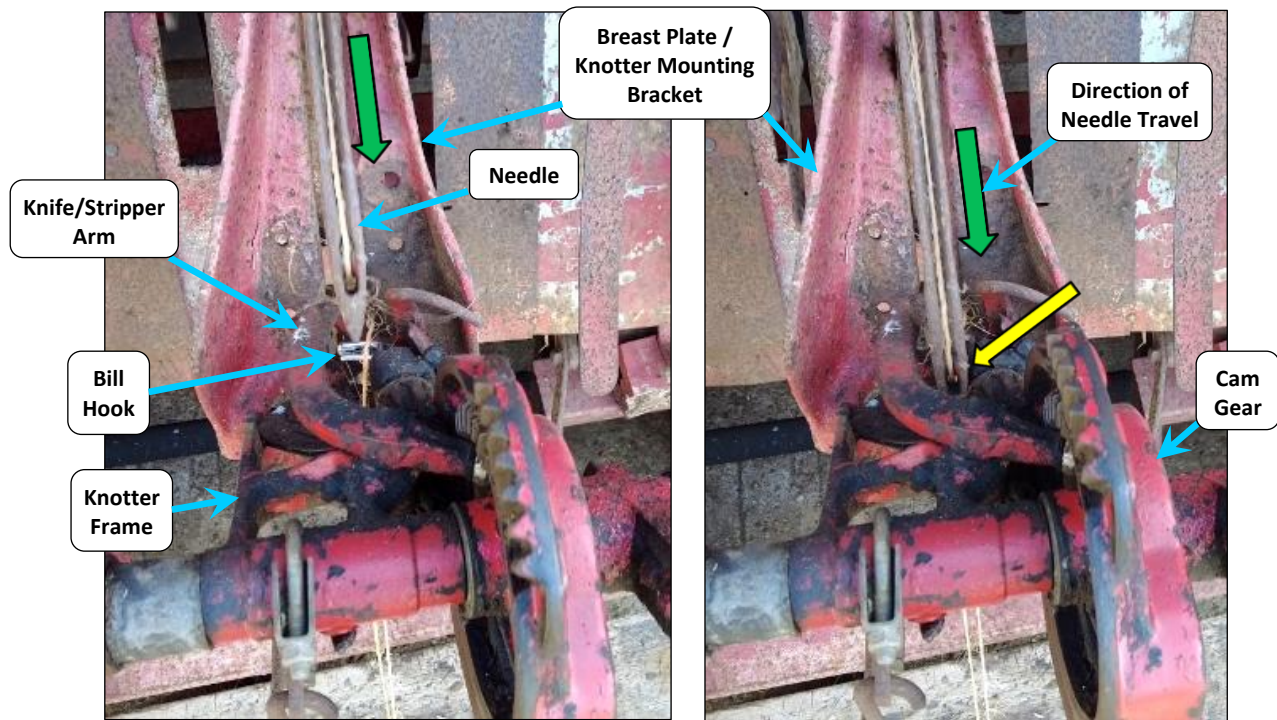

Fig.5.9 (Modified) trusser knotter assembly during early stages of the tying cycle (*viewed from above*).
- **Ideally** one side of each Needle should rub lightly against the inside of the Knotter Frame *(see Figs 5.9 & 5.18)*